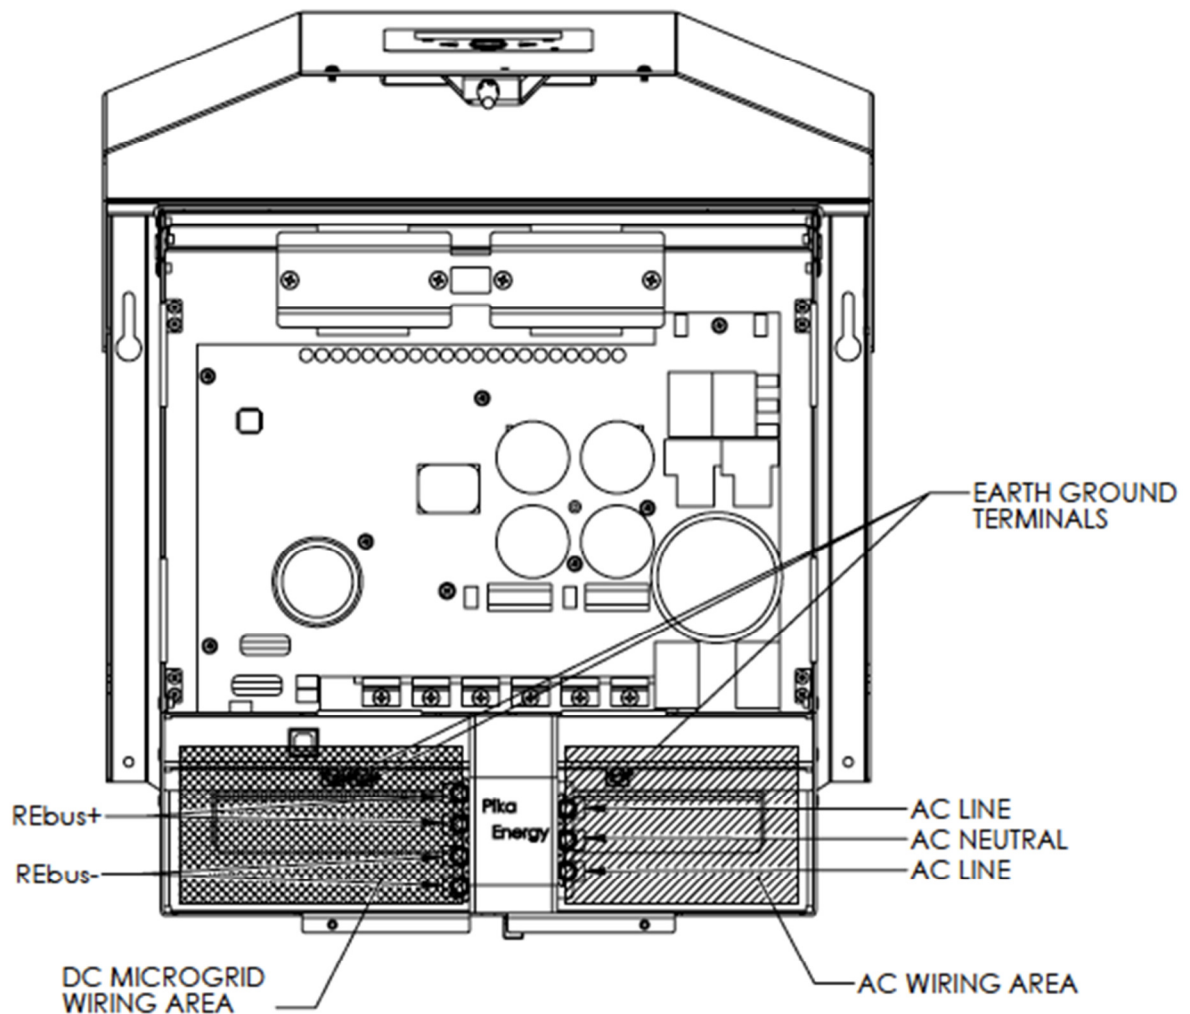

Figure 5 Wiring Diagram
4. Run wires from AC distribution panel to inverter, connect to terminals (reference Figure 5 for wiring locations), torque to 2.1 Nm (18.5 in-lb)